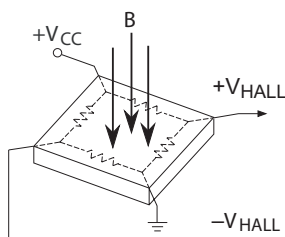

Figure 1: Hall Element, Basic Circuit Operation
The Hall element can be considered as a resistor array similar to a Wheatstone bridge. A basic circuit is shown in Figure 1, demonstrating the effect of the magnetic field flux density (B) impinging on the Hall element. When using Hall-effect technology, a limiting factor for switchpoint accuracy is the small signal voltage (V_{HALL}) developed across the Hall element. This voltage is disproportionately small relative to the offset that can be produced at the output of the Hall device, caused by device overmolding, temperature dependencies, and thermal stress.